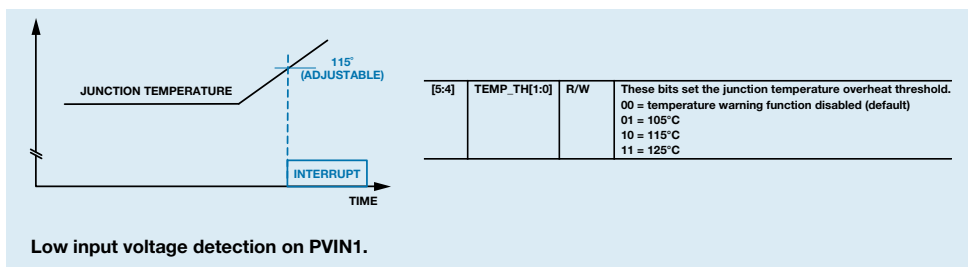

Figure 9. Junction temperature monitoring.
**Junction Temperature Monitor:** The junction temperature can be monitored for faults such as overtemperature conditions. If the junction temperature increases above a preset level (105°C, 115°C, or 125°C), an alert is signaled on nINT. Unlike thermal shutdown, this function sends a warning signal, but does not shut down the device. The ability to monitor the junction temperature and alert the system processor to possible systems failures before they happen increases the system reliability, as shown in Figure 9.